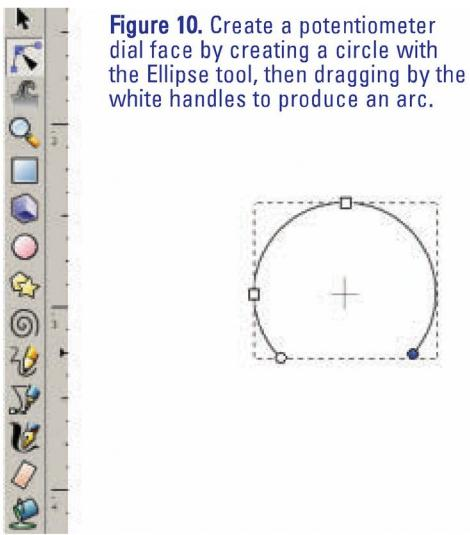

Figure 10. Create a potentiometer dial face by creating a circle with the Ellipse tool, then dragging by the white handles to produce an arc.
3. Select the circle and click on the Edit Paths tool. Drag the white handles to create an arc as shown in **Figure 10**. (If the circle is shown where all line segments are connected, keep the circle selected, then click on the Ellipse tool. In the Change bar that appears, click on the “Switch to arc (unclosed shape)” icon.